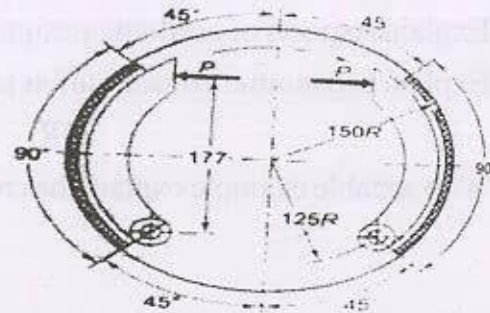

Fig. 1
- b) An automotive type internal expanding brake is as shown in figure 1. The face width of friction lining is 50mm and the coefficient of friction is 0.4. The maximum intensity of pressure on the lining is 0.8 N/mm^2 . The angle θ_1 can be assumed to be zero. Calculate: [8]